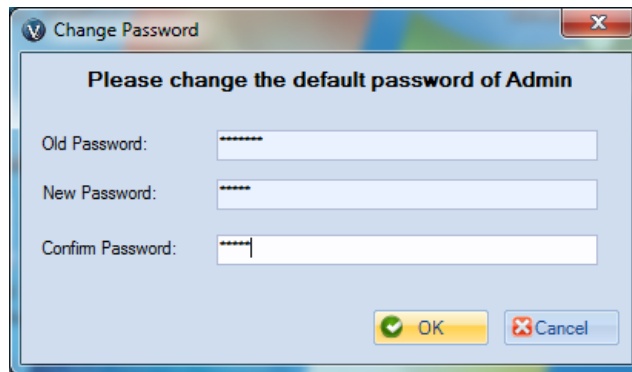

Figure 10 Change Password
- ValVue Authentication*: This is the default username and password for first login. Username *Admin* and Password: *ValVue3*. These must be changed after the first login.During your initial login Figure 10 appears.